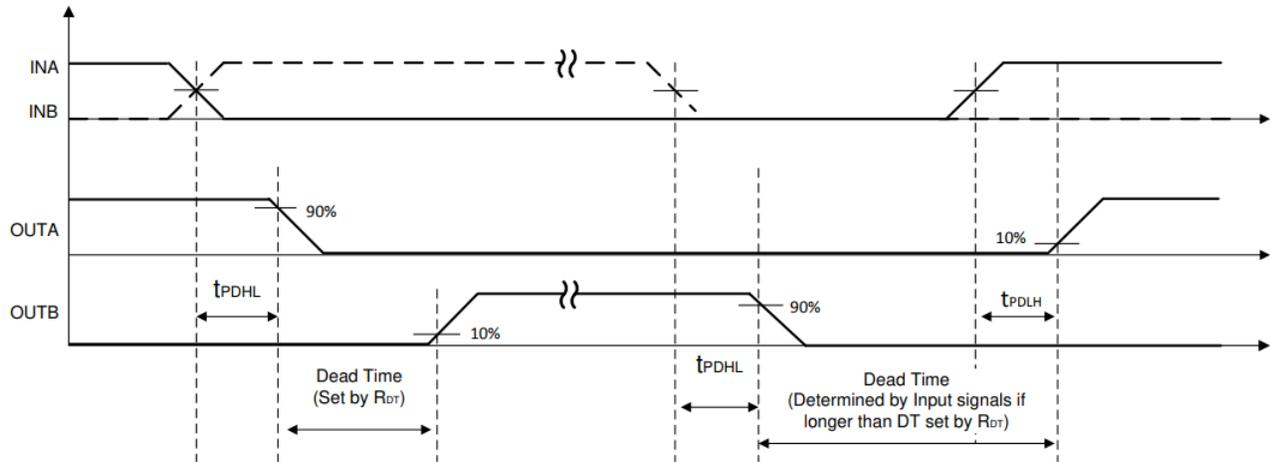
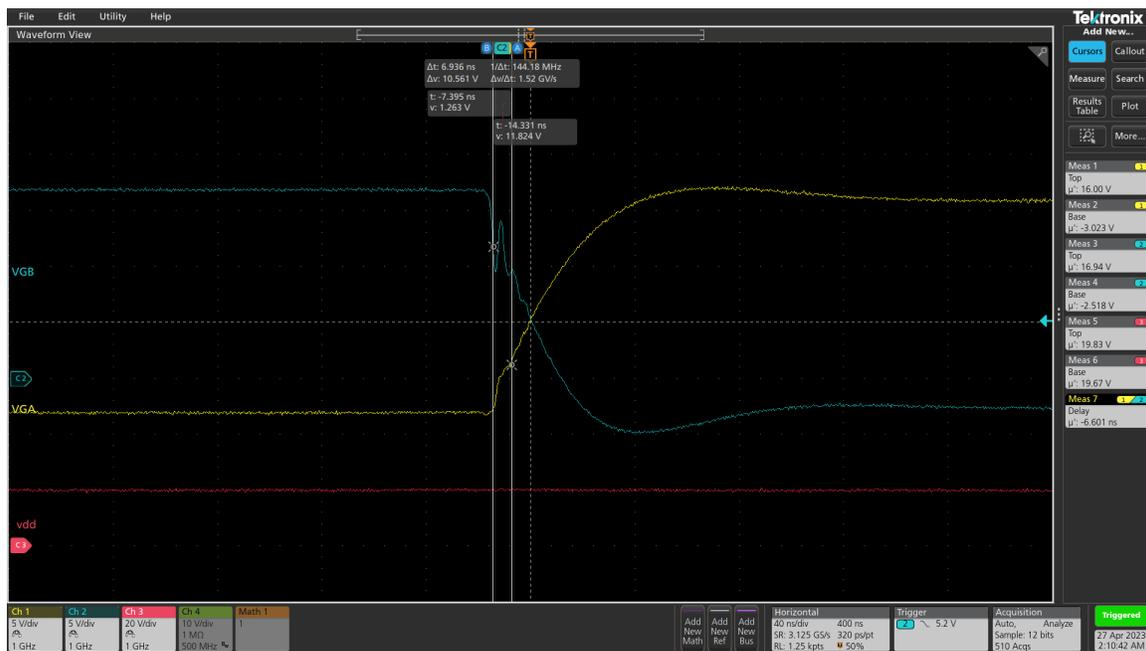

Figure 3-3. Timing Diagram
Figure 3-4. Interlock Mode
- Interlock Mode:** Interlock mode sets a minimum delay of approximately 5 ns between gate driver outputs to prevent the channels from overlapping. This mode is initiated when the dead time pin is grounded (Shunting J5 to DT-GND). The dead time is defined as the delay between 90% of the falling edge of the first output and 10% of the rising edge of the second output. Timing is illustrated in Figure 3-3. See Figure 3-4 for an example of Interlock mode.